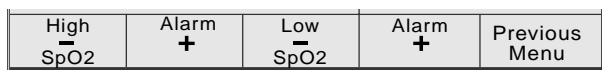

Figure 9-4. Alarm limits menu
- Press **F2** **SpO₂ Alarm Limits** to display the alarm limits menu (Figure 9-4).